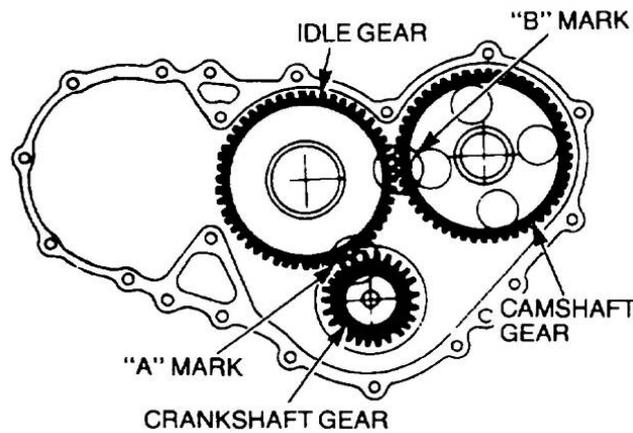

Figure 52 Aligning the Idle Gear Timing Marks
- vv. Rotate the crankshaft to bring Number one cylinder onto Top Dead Centre (TDC), which also brings the timing mark on the gear toward the idle gear shaft. Rotate the camshaft to bring the timing mark on the gear toward the idle gear shaft (Figure 52).
- ww. Lubricate the idle gear and the idle gear shaft with clean engine oil. Install the gear onto the idle shaft aligning the timing marks on the idle gear with the timing marks on both the crankshaft and camshaft gears (Figure 52). If necessary, remove the idle gear and rotate the camshaft to align the timing marks.